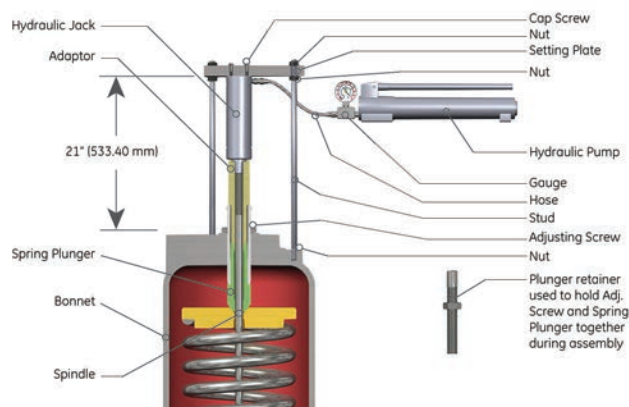

Figure 15: Setting Device for V and W Orifice
- Attach the setting device (see Figure 15).
7. Remove the stud nuts (14) and lift off the bonnet (11).